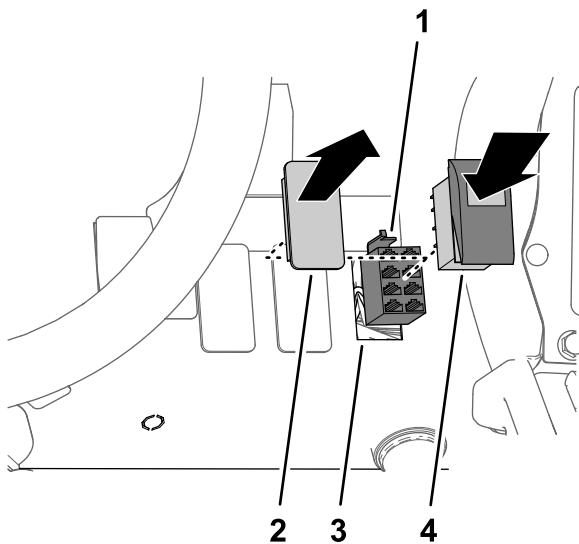

Figure 22
1. Remove the switch plug in the dash panel at the location shown in Figure 22.
2. Connect the 8-socket connector of the wiring harness of the ultra sonic boom finishing kit labeled SONIC MODE MANUAL VS. AUTO to the rocker switch (Figure 22).
3. Insert the rocker switch in the dash panel opening until the switch snaps securely (Figure 22).